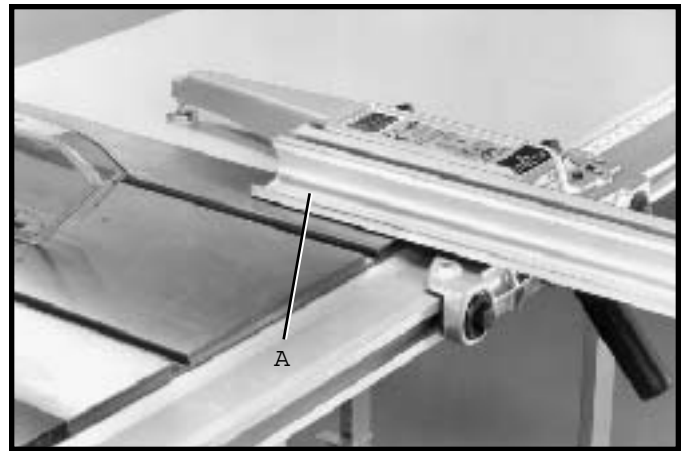

Fig. 104
When using the fence as a cut-off gage, simply position the fence (A) to the front as shown in Fig. 104, or purchase the accessory 34-878, 12 long fence (B), as shown in Fig. 105. Fig. 106, illustrates a typical operation using the accessory 34-878 12 long fence (B) as a cut-off gage.